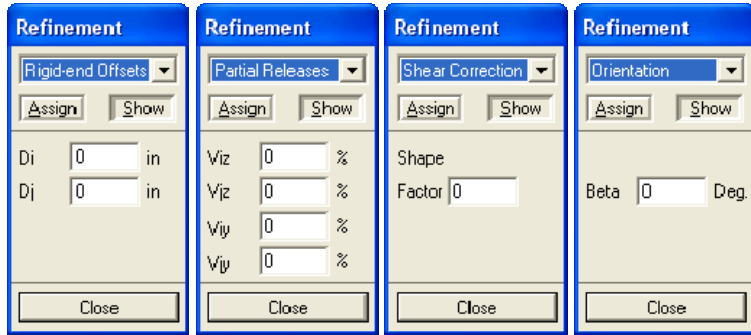

Figure 5-19 Refinement dialog box
- From the Assign menu, choose Refinement. The modeless dialog box of Figure 5-19 appears. This box has two modes, ASSIGN and SHOW. To end refinement assignment, choose the CLOSE button.